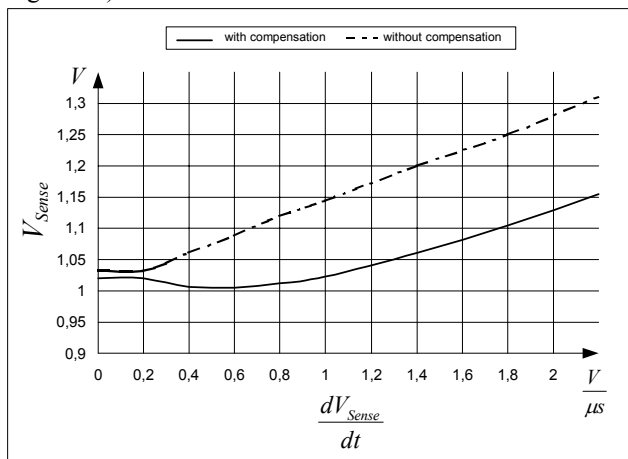

Figure 13 Overcurrent Shutdown
within a wide range. Current Limiting is now possible in a very accurate way (see Figure 13).
E.g.  $I_{peak} = 0.5A$  with  $R_{Sense} = 2$ . Without Propagation Delay Compensation the current sense threshold is set to a static voltage level  $V_{csth} = 1V$ . A current ramp of  $dI/dt = 0.4A/\mu s$ , that means  $dV_{Sense}/dt = 0.8V/\mu s$ , and a propagation delay time of i.e.  $t_{Propagation Delay} = 180ns$  leads then to an  $I_{peak}$  overshoot of 14.4%. By means of propagation delay compensation the overshoot is only about 2% (see Figure 13).